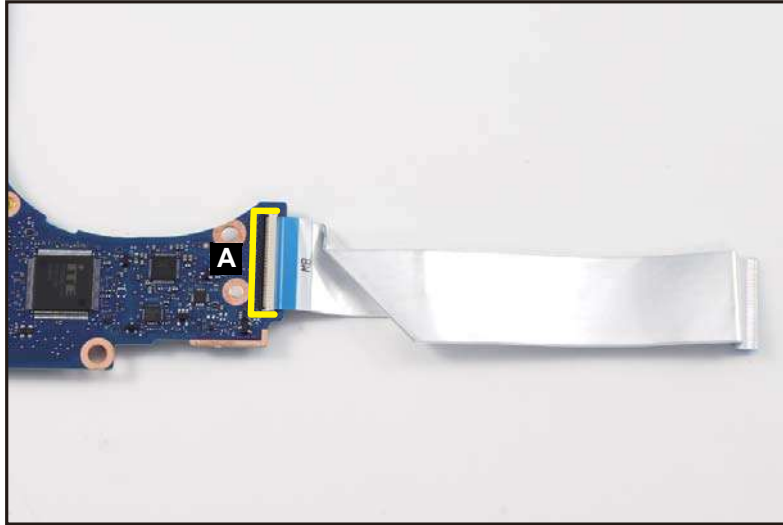

Figure 3-94. Replacing the Mainboard
1. Connect the DB FFC to the mainboard connector (A) (Figure 3-94).